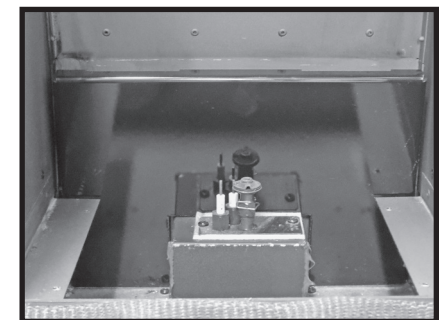

Figure 41: Lower back panel.
3. Remove the lower back panel by lifting it off of the pilot ledge and pull it out of stove (Figure 41).
1. Insert lower back panel so that it is sitting on the ledge at the back of the firebox (Figure 41).